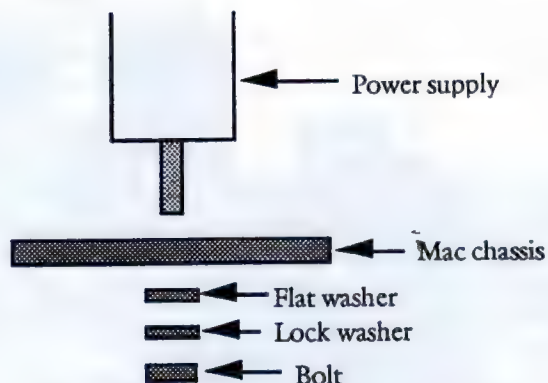

Figure 10 : Power supply installation - edge view
3. Put a flat washer, a lock washer and then a nut on each stud to secure the power supply. As shown in figure 10.